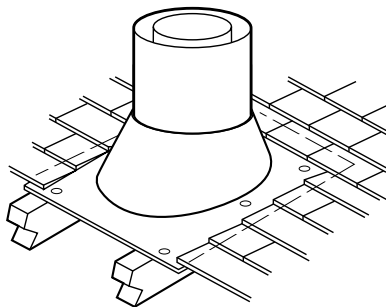

Figure 31
Step 7. Secure flashing by nailing along the perimeter into roof using 8d nails. If shingled roof, slide upper end and sides of roof flashing under shingles (trim if necessary), seal the top and both sides of the flashing to the roof with roof caulking. Cover nail heads with roof caulking (**Figure 31**).